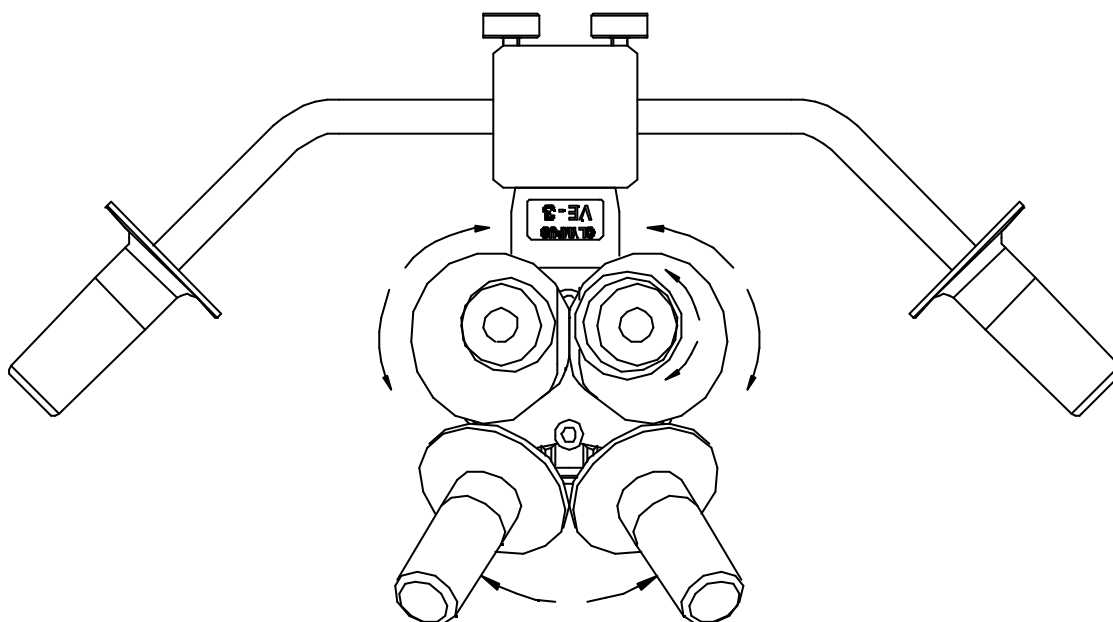

Figure 12 Adjusting the microscope
3. When the microscope has been placed in the appropriate position, the focal length may be adjusted by rotating the sterilizable focus knob anti-clockwise/right to increase the working distance or clockwise/left to decrease the working distance. Refer to figure 12.
4. Diopter adjustment may be undertaken by first viewing through the left (non-adjustable) eyepiece with the left eye, and focussing on the object by using the focus knob. Then look through the right (adjustable) eyepiece with the right eye, and turning the diopter adjustment ring until the same object is focussed. Refer to figure 12.
5. Pupillary distance may be adjusted by holding the left and right eyepiece tubes with both hands, then pushing them together or pulling them apart until perfect binocular vision is obtained. Refer to figure 12.